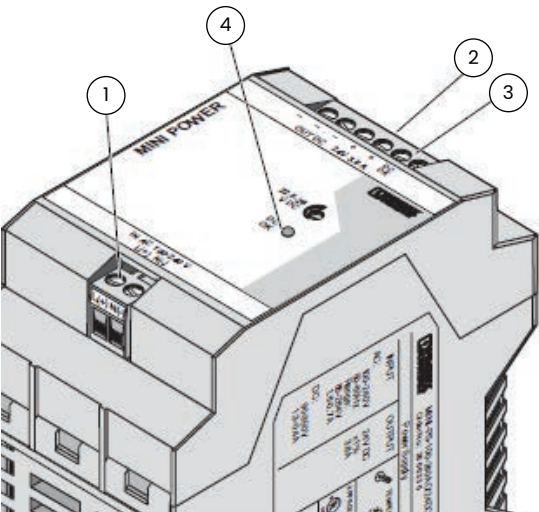

Figure 29: Phoenix Contact MINI-PS-100-240AC/24DC/C2LPS I/O connections
4.1.1 Input (1, figure 29)
4.1.2 Output (2, figure 29)